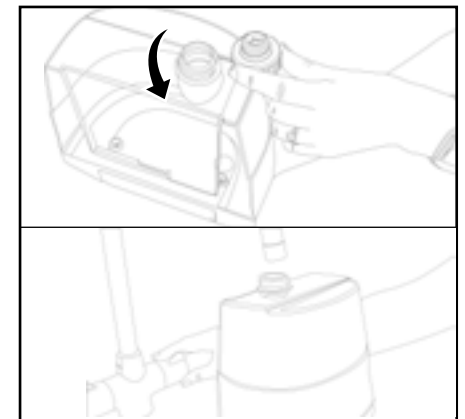

Fig. 3
3. Open the screw cap and fill with clean water and solution. (Fig 3) The maximum water capacity is 3L. Please follow the instructions on the solution to ensure correct dosage.